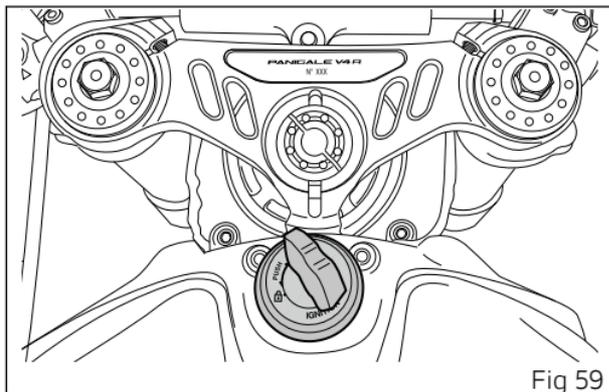

Fig 59
The engine will shut off by moving the switch (3) downwards to  (engine stop). Turn the key to OFF (Fig 59).